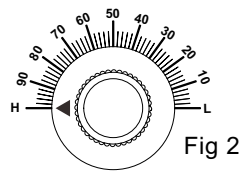

Fig 2
- 2. Turn the "SENSITIVITY" to the "H" position (Figure 2).